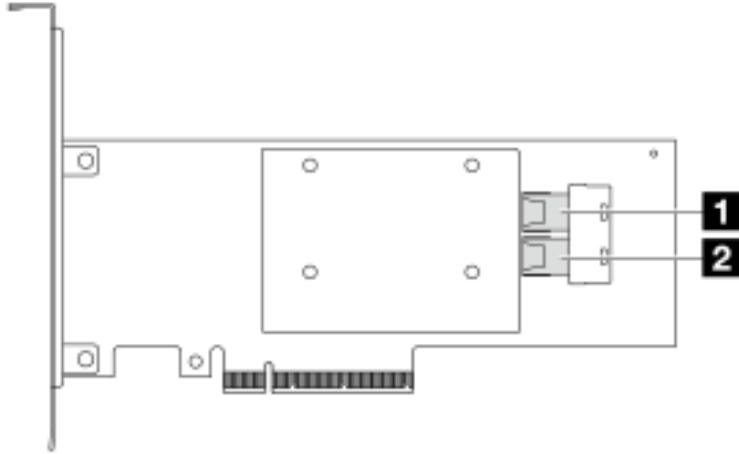

Figure 218. A Gen 3 8i SFF RAID/HBA adapter (two port connectors)
- Figure 218 “A Gen 3 8i SFF HBA adapter \(two port connectors\)” on page 255